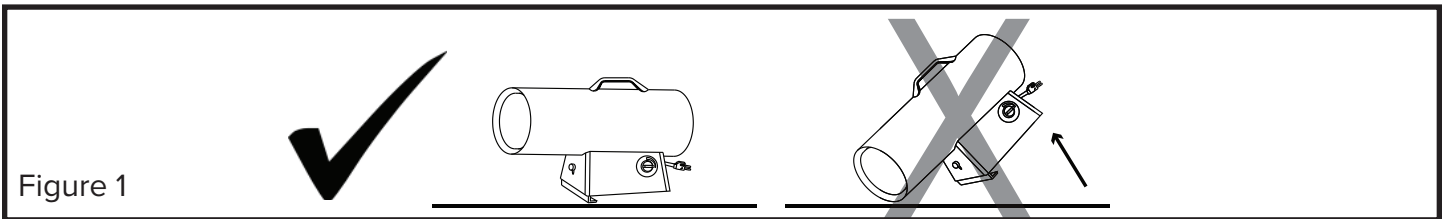

Figure 1
**⚠ WARNING RISK OF FIRE! DO NOT POSITION HEATER IN A DOWNWARD ANGLE. ALWAYS LOCATE HEATER ON A STABLE AND LEVEL SURFACE (SEE FIGURE 1)!**